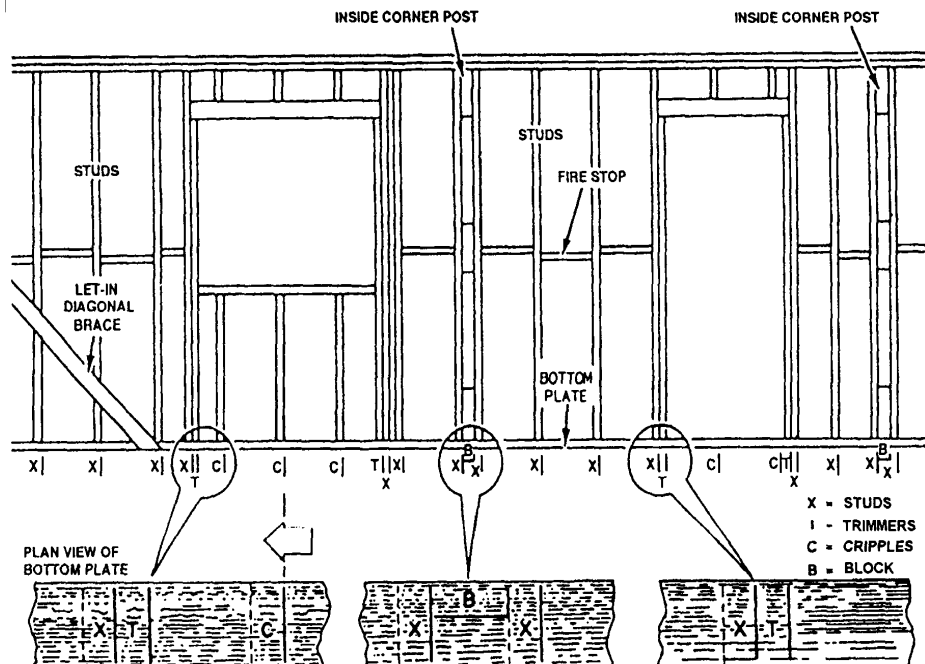

Figure 5, Corner Posts
**Step 10: Corner posts are installed at the end of the wall in the corner, but not in the wall that butts up next to it in the same corner (Figure 5).**